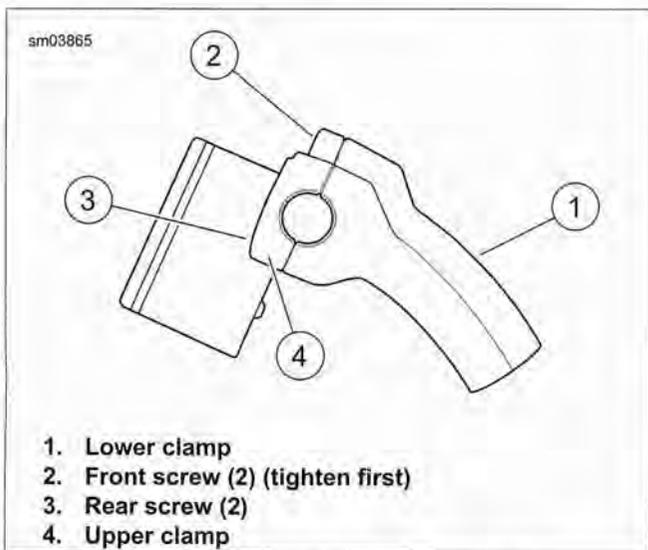

Figure 2-190. Handlebar Riser: XL 1200C
3. See Figure 2-190. Install the handlebar: